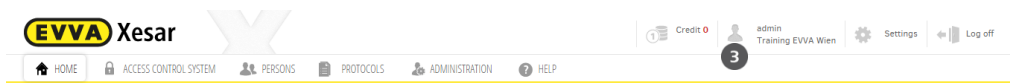

Figure 57: Individual client logo
If necessary, change your client logo here. The selected logo will then be shown in the program's tool bar ❸ (Figure 57: Individual client logo).